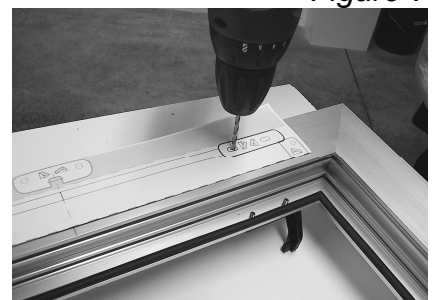

Figure 8
E. Bore holes in the window frame at the points indicated on the template (Fig. 8).